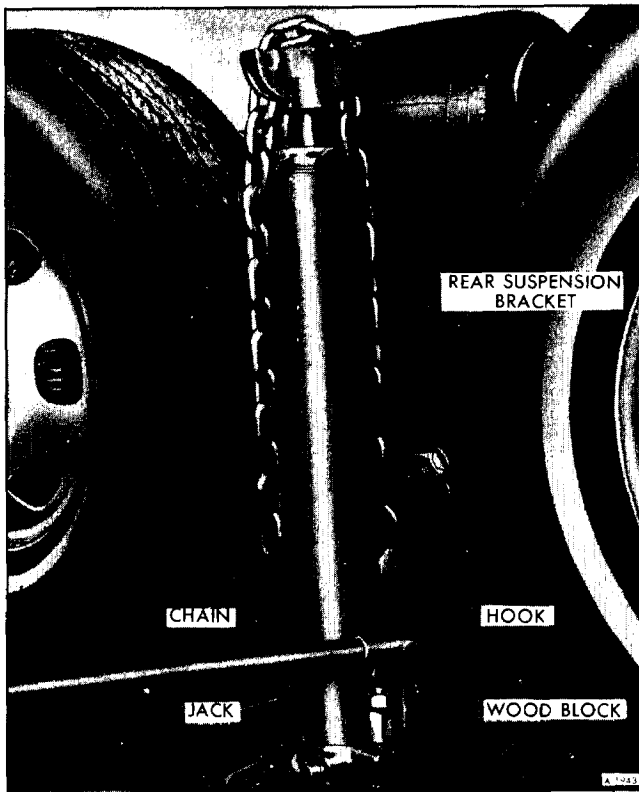

Figure 8—Jacking at Rear of Motor Home
- **JACKING AT REAR**—Place hydraulic jack on wood block close to rear suspension bracket (See figure 8). The hook is placed in the drainage slot under bracket. Adjust chain length so link will fit in fork at top of jack.